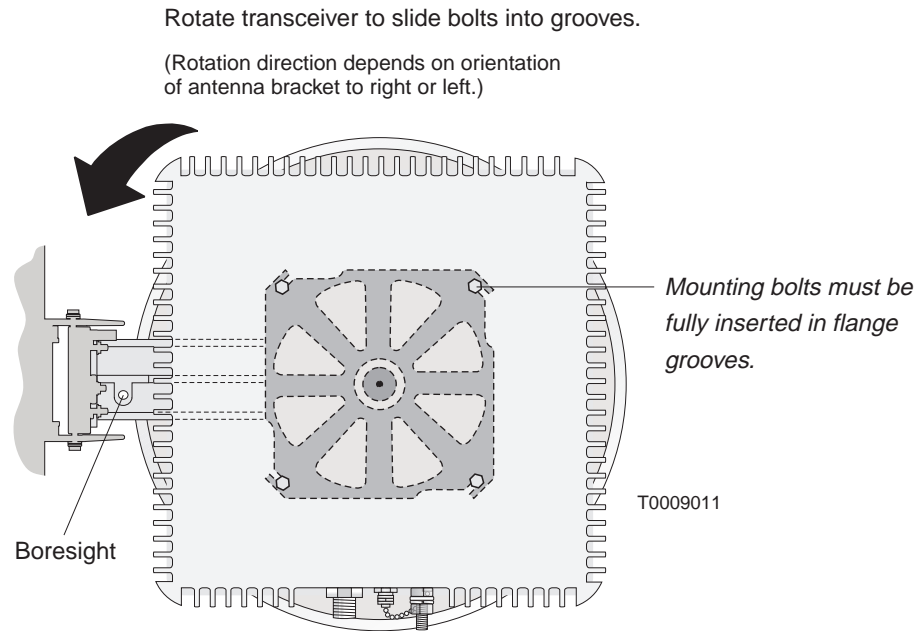

Figure 6-22 Rotating the mounting bolts into the grooves
3. Rotate the transceiver, making sure the transceiver's mounting bolts slide into the grooves in the antenna flange. (The direction of rotation depends on the orientation of the antenna bracket—to the right or left.) If the mounting bolts will not slide into the grooves, loosen the bolts. See figure 6-22.